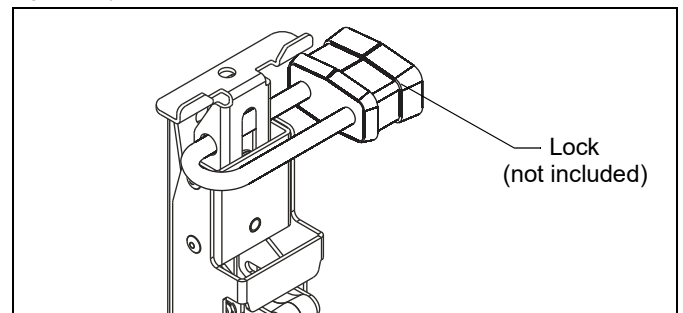

Figure 10
**IMPORTANT ! :** If the interface brackets are locked at 0°, a lock (not included) with an extended shackle is required. (See Figure 10)